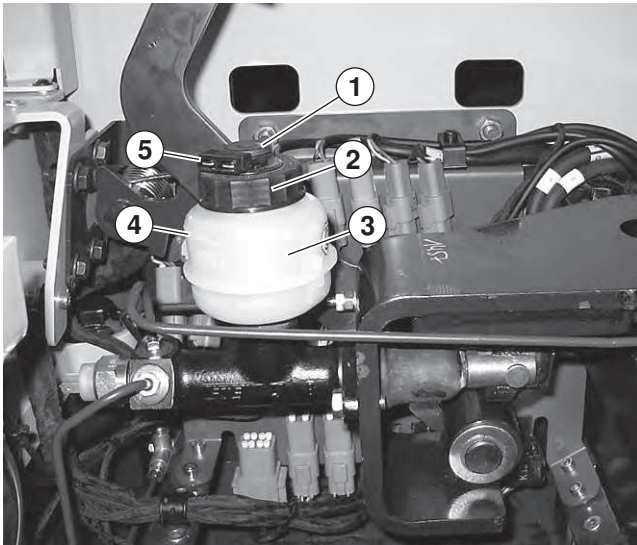

Fig. 155 Storage tank on main brake cylinder
3. Remove the electrical connections from the BFS switch (5, Fig. 155).
4. Remove the cover (2).
5. Add DOT4 brake fluid up to the mark (4).
7. Restore the electrical connections to the BFS switch (5, Fig. 155).
9. Press the test button (1) to check the BFS switch.